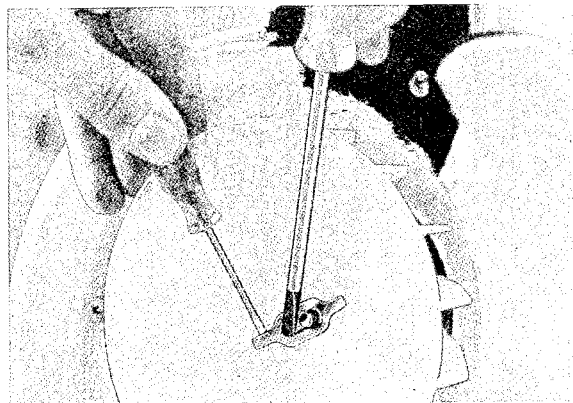

Fig. 8-70. Removing turbine lock
9. Remove the turbine wheel locking with the help of two screwdrivers (Fig. 8-70), and remove the turbine.
7. Remove the turbine wheel locking with the help of two screwdrivers (Fig. 8-70) and remove the turbine.